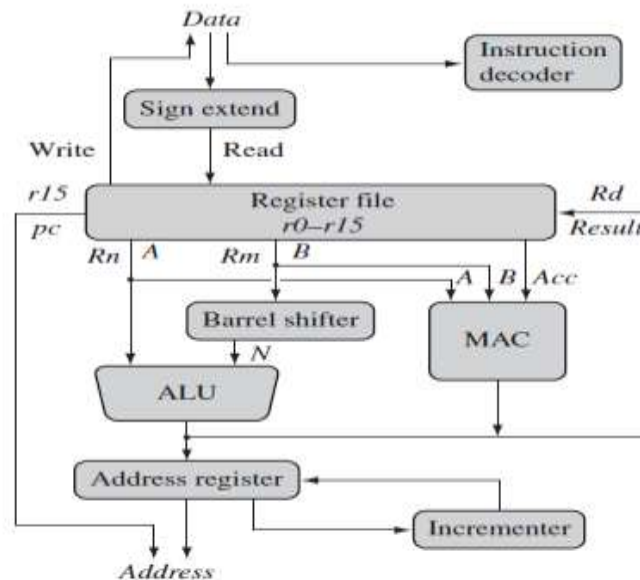

Figure 2.1 ARM core dataflow model.
- A programmer can think of an ARM core as functional units connected by data buses, as shown in Figure 2.1, where, the arrows represent the flow of data, the lines represent the buses, and the boxes represent either an operation unit or a storage area.